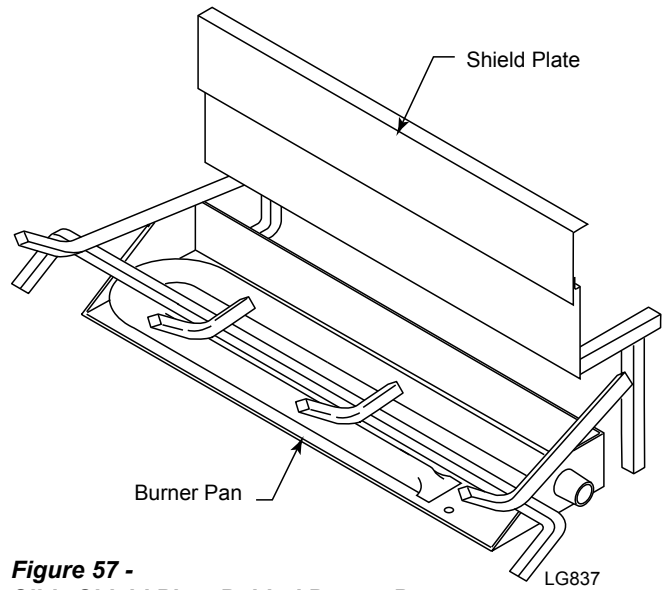

Figure 57 - Slide Shield Plate Behind Burner Pan
1. Slide shield plate behind burner pan. *Figure 57*